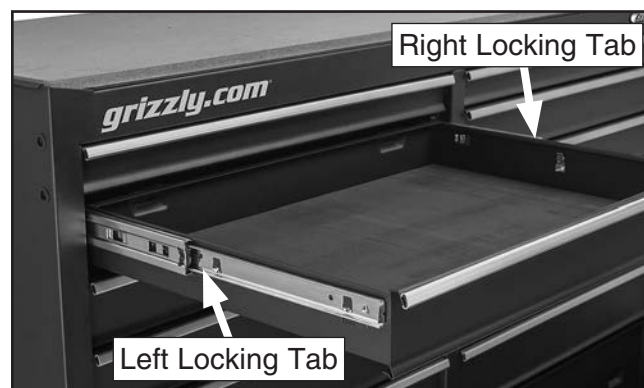

Figure 4. Location of drawer locking tabs.
2. Push left locking tab down and hold, then pull right locking tab up and hold (see **Figure 4**).